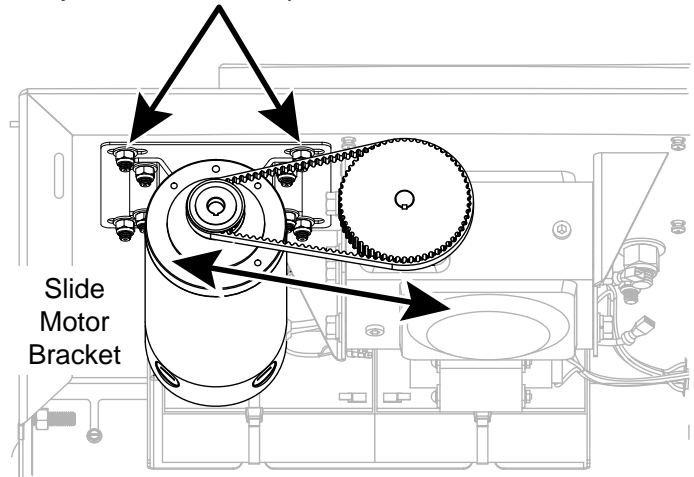
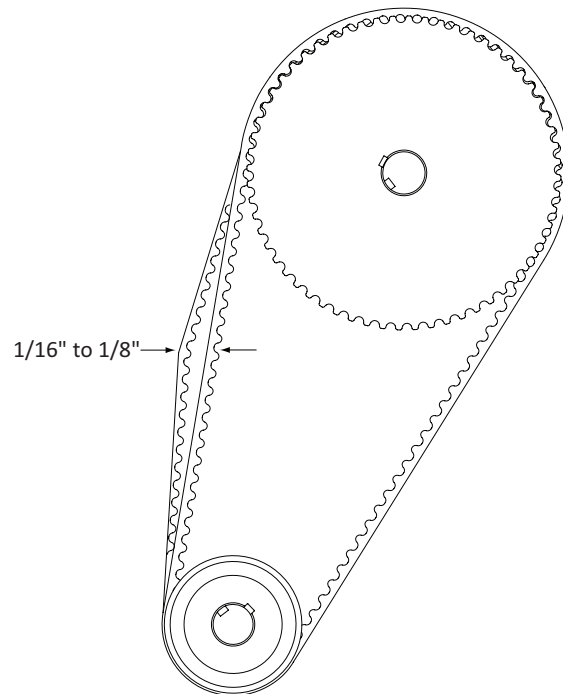

Figure 74. Drive Belt Tension and Alignment
Figure 75. Drive Belt Tension
4. With your finger, apply light outward pressure to the drive belt. If it is properly tensioned, it should only move about 1/16 to 1/8-inch (1.6 to 3.2cm). See Figure 74 and Figure 75.